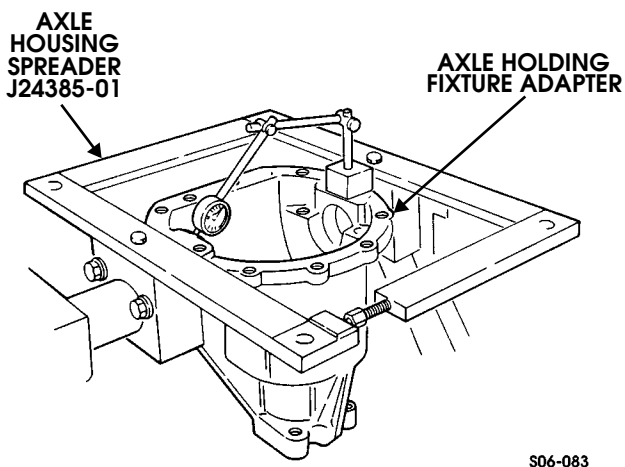

Figure 9-96: Axle Housing Spreader Mounting
57. Install axle housing spreader into holes in axle holding fixture adapters and install dial indicator to read from each end of housing. Indicator must have preload setting of 0.020 in. (0.50 mm) (Figure 9-96).